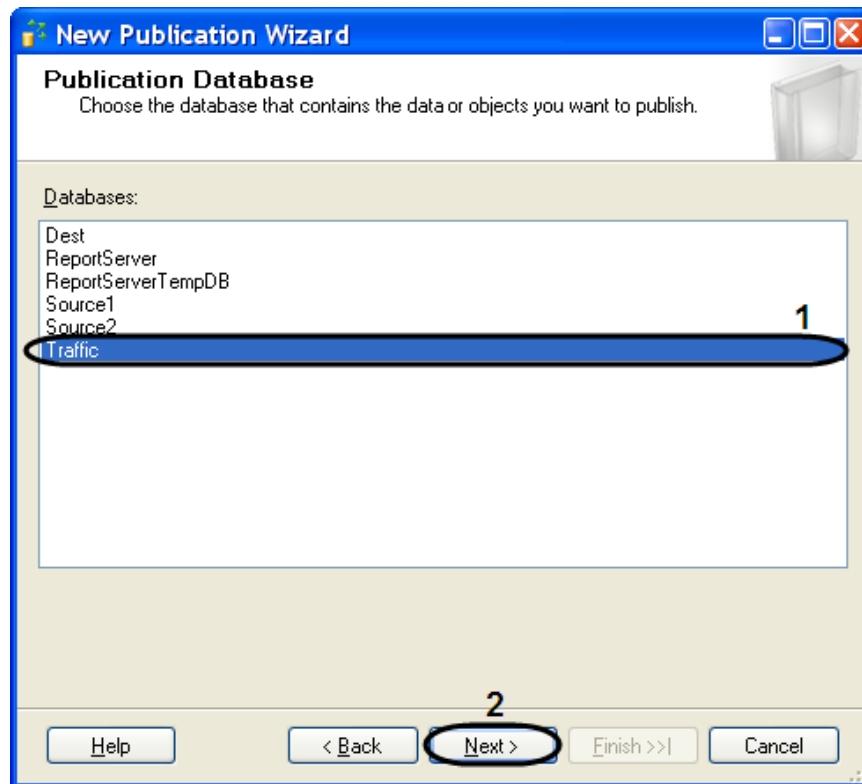

Fig. 9.3-4 Databases selection
- 10.1. Select the distributor database from the list «Databases» (Fig. 9.3-4, 1).
- 10.2. Click Next to continue (Fig. 9.3-4, 2).